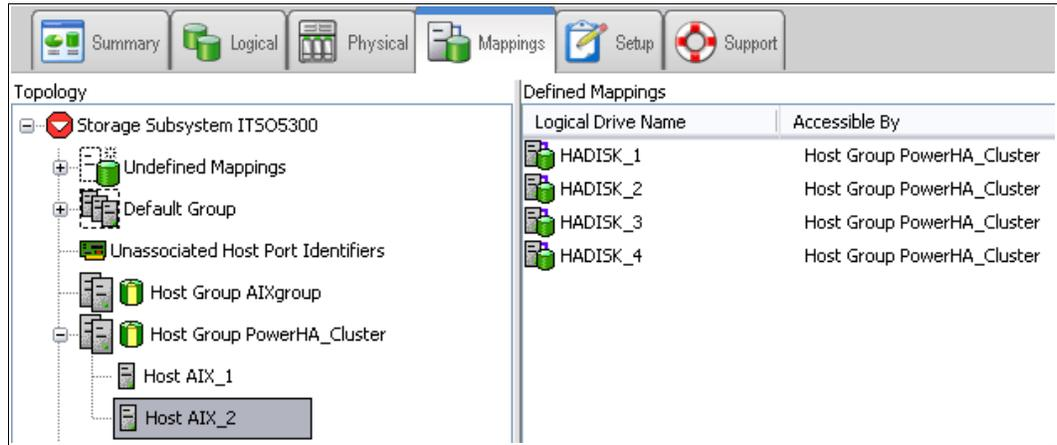

Figure 12-19 Cluster - Host Group and Mappings
- ▶ Using Storage Manager, define a Host Group for the cluster and include the various hosts (nodes) and host ports as illustrated in Figure 12-19.